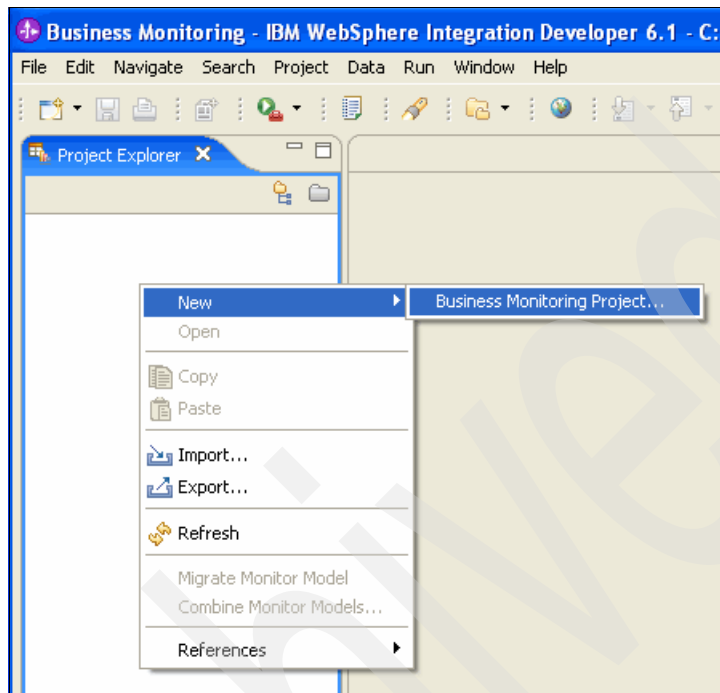

Figure 10-22 Creating a new Business Monitoring Project
3. In the Project Explorer view (Figure 10-22), right-click and select **New** → **Business Monitoring Project**.